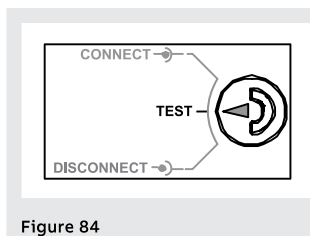

Figure 84
- circuit-breaker in test position (see Figure 84)